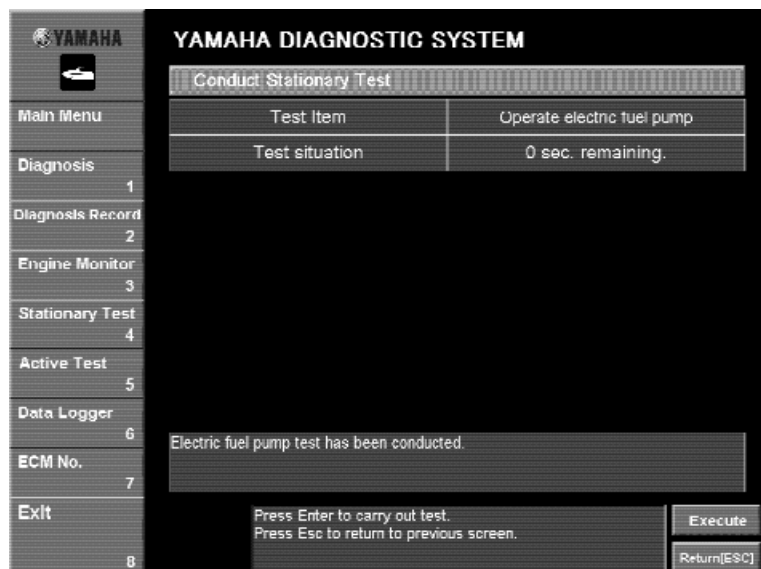

Fig. 54
4. To perform the test again, click the **Execute** button or press the Enter key on your keyboard. To perform a different test, click the **Return [ESC]** button or press the Esc key on your keyboard to return to the window where a different test can be selected (Fig. 54).